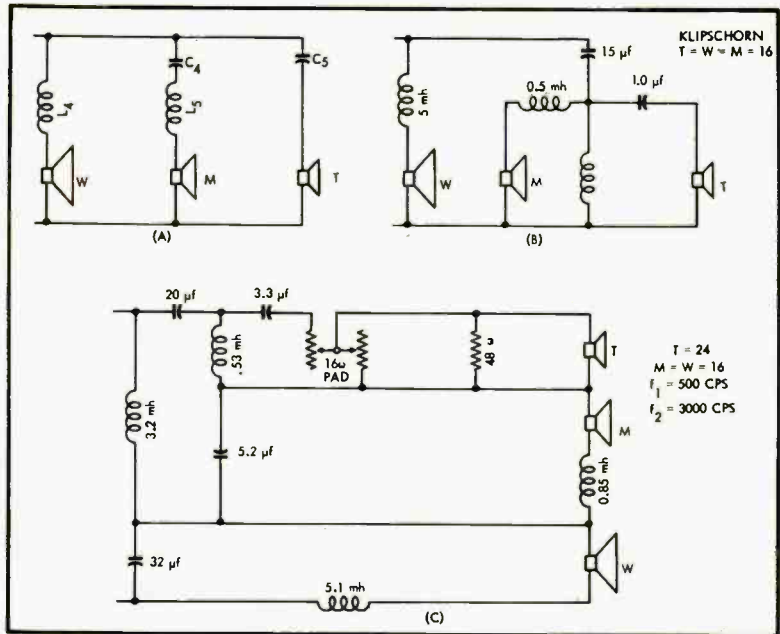

Fig. 5. Three-way crossovers. See text for full description.
There are more possibilities in three speaker crossovers, but the basic ideas are the same as before. Coils increase their inductive reactance with rising frequency, capacitors decrease their capacitive reactance with rising frequency. To start, we need to decide the frequencies for the crossovers. Low frequencies must go to the woofer *W*, so it needs a series coil which stops the increasing frequencies at a faster and faster rate. The tweeter *T* has a series capacitor, which allows higher frequencies to pass, and blocks the lower ones. The mid-range speaker *M* needs both *L* and *C*, with a sharp crossover. One scheme is shown at (A) in Fig. 5 where the woofer *W* and tweeter *T* are much the same as previous examples. The mid-range speaker *M* has a twice-capacitance capacitor (half reactance) and a half-inductance coil (half reactance) in series with it. At the crossover frequency between *W* and *M*, the two units C_4 and L_5 of (A) together have a reactance equal to that of *M* the mid-range speaker.
As a typical example for (A) in Fig. 5: suppose for 16-ohm speakers that the crossovers are 500 cps where *W* starts to cut out; and 4000 cps where *T* starts to
The Klipschorn (trademark) crossover⁸ is shown at (B) of Fig. 5. This
For the circuit of (C) in Fig. 5 the values are a bit more complicated⁹ and include a 16-ohm L-pad for the tweeter. This *L* is unrelated to the *L* used for coil values. Incidentally, this feature can be used in other circuits; replace the tweeter *T* with a potentiometer, or with an L-pad, to control the volume of the tweeter independently.